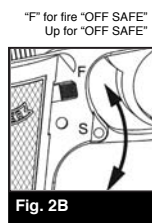

Fig. 2B
- Push the safety up, pointing to the "F" position (Fig. 2B). When you can see the RED dot the airgun is "OFF SAFE" and can be fired.